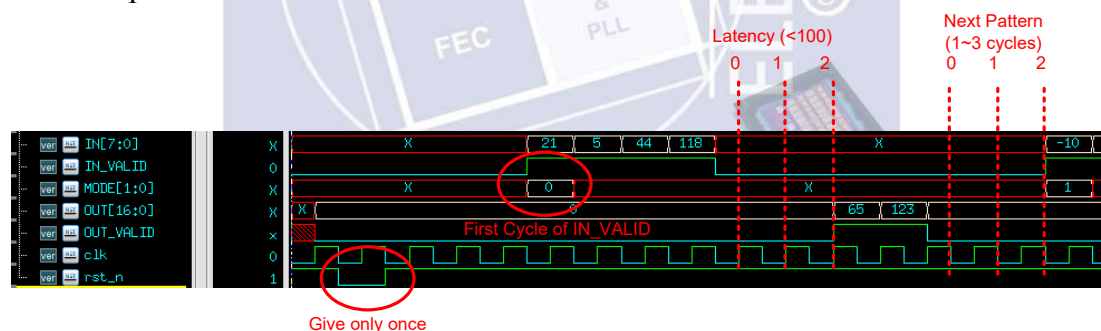

Fig.1
6. The latency of your design in each pattern should not be larger than **100** cycles. The latency is defined in Fig.1.a